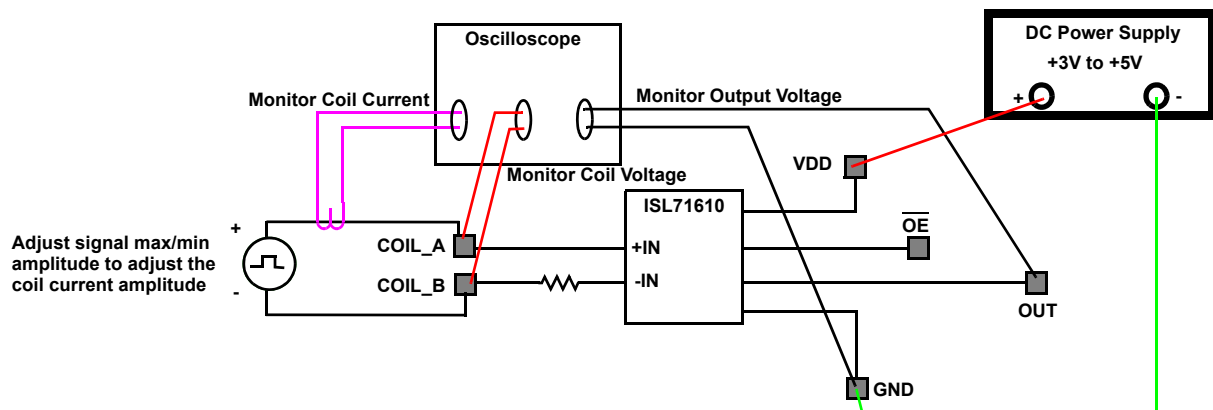

Figure 2. ISL71610SLHM Basic Evaluation Test Setup Block Diagram
1. Configure the board as shown in Figure 2.